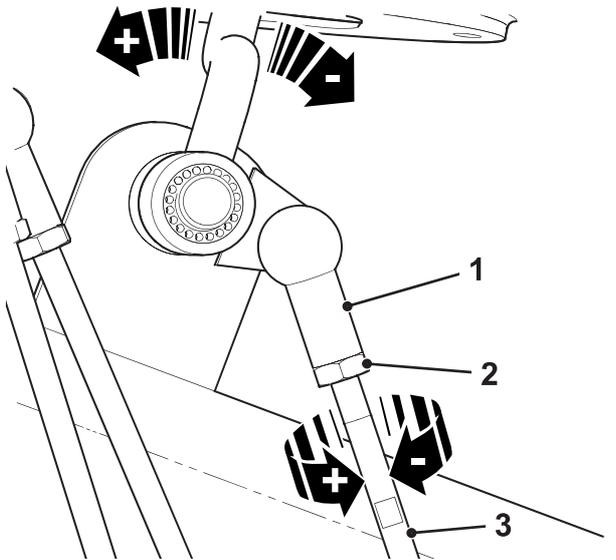

Fig 9.
- If necessary, adjust the length of the control rod assembly so that the control lever is in the correct position. → Fig 9. \(□ D-9\).